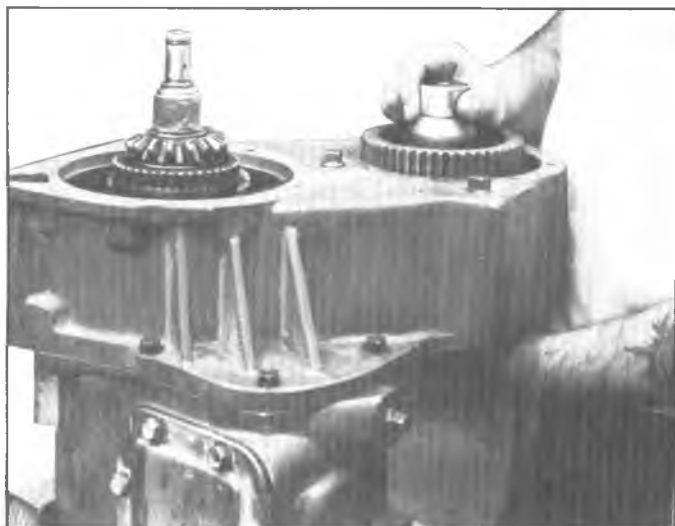

Fig. 9F—Removing Front Output Shaft
13. Disengage front output shaft from chain and remove shaft from transfer case (Fig. 9F).